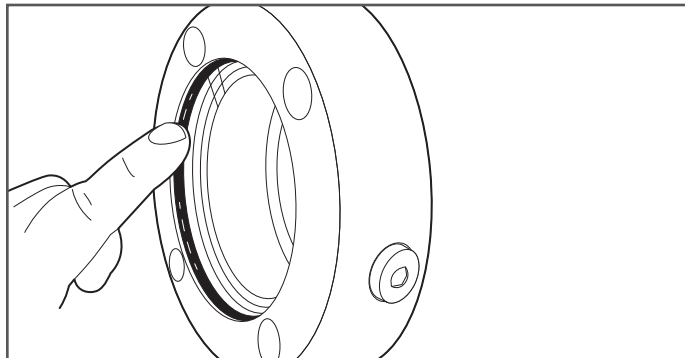

Figure 7-14
- 15.** Ensure inner o-ring is not damaged or torn (Figure 7-14).